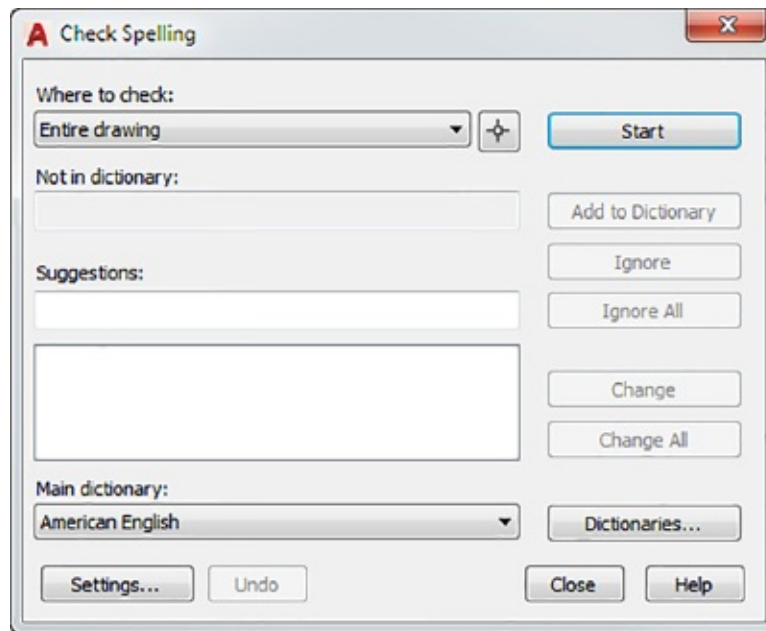

FIGURE 9.21 The Check Spelling dialog box
1. Click the Check Spelling tool in the Annotate tab's Text panel. You can also type **Sp**↵. The Check Spelling dialog box appears (see Figure 9.21).